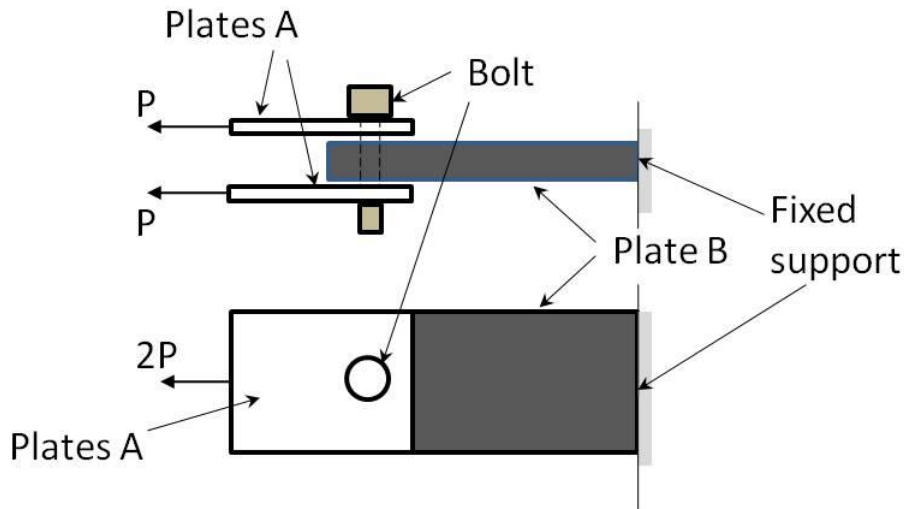

Figure 1
1. (a) Figure 1 shows a connection where two plates A are connected to one plate B via a bolt. Using a proper sketch of the free body diagram of the bolt, indicate the planes in the bolt where shear stress occurs and location on the bolt where bearing stress occurs.